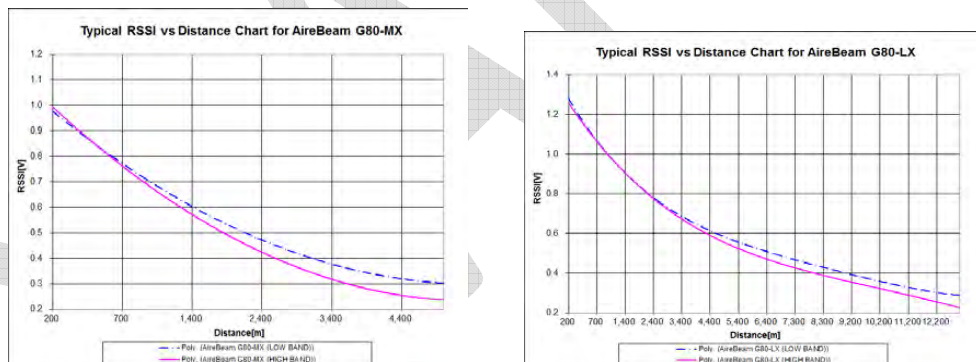

Figure 5-12: Typical AireBeam G80 RSSI vs. Distance Charts
- When aligning the system it is important to take a look at the Receive Signal Strength Indicator (RSSI) shown in Fig. 5-12. The RSSI chart shows the RSSI signal voltage as a function of the deployment distance in clear weather conditions. Therefore, and when the system is installed under non-clear weather conditions, the values can be lower during the actual installation process. The RSSI values are different for the low band and the high band radio and the values vary slightly and within a few percent from one radio system to another due to manufacturing tolerances. However, the chart provides a very good indication of expected RSSI values as a function of deployment distance. The overall goal of the alignment process is to align the system as close as possible to the RSSI value provided in the RSSI chart.